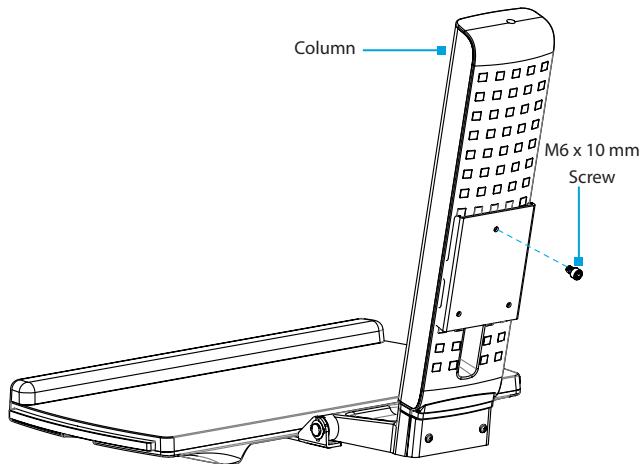

Figure 4
1. Thread an **M6 x 10 mm Screw** into the **Mounting Hole**, located in the top of the **Plate** found on the back of the **Column**. (Figure 4)